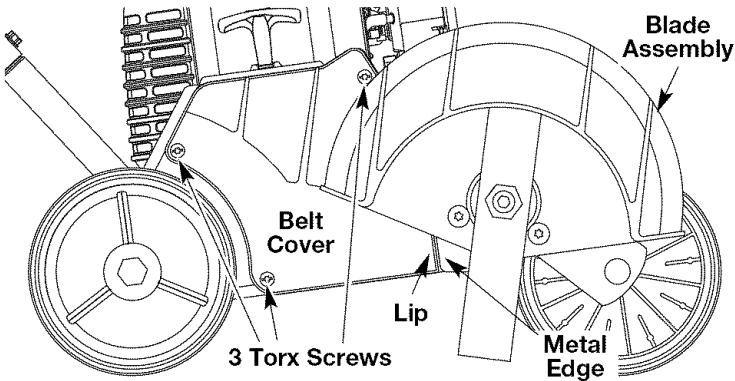

Fig. 37
3. Using a flat-head or T-20 Torx screwdriver, remove the 3 Torx screws holding the belt cover to the belt housing (Fig. 37).
21. Slide the belt cover behind the blade assembly so that the lip of the blade cover fits behind the metal edge of the blade assembly (Fig. 37).